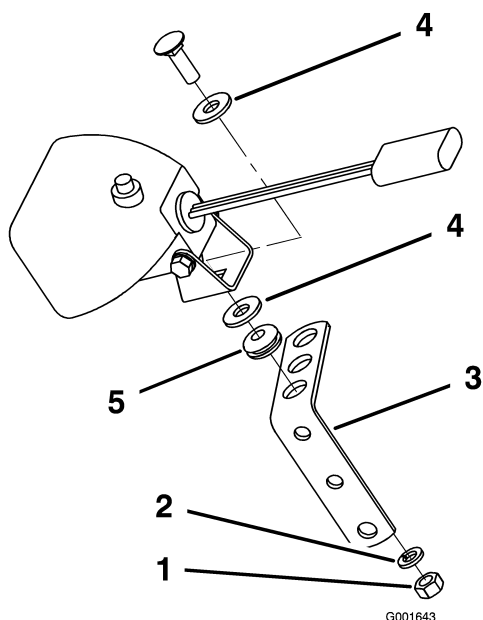
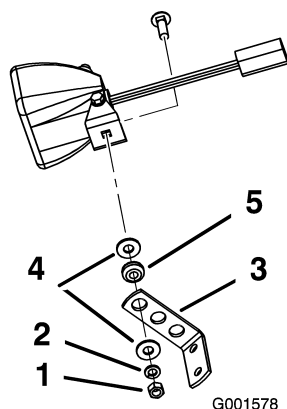

Figure 9
Figure 10
4. Remove the nut and the washer from the lamp with a switch (Figure 9 for Z400 series mowers or Figure 10 for Z500 series mowers).
5. Install the lamp with the switch onto the side lamp bracket as illustrated for your mower in Figure 9 or Figure 10, using 2 flat washers, a rubber grommet, and the washer and nut you removed from the lamp in step 4.